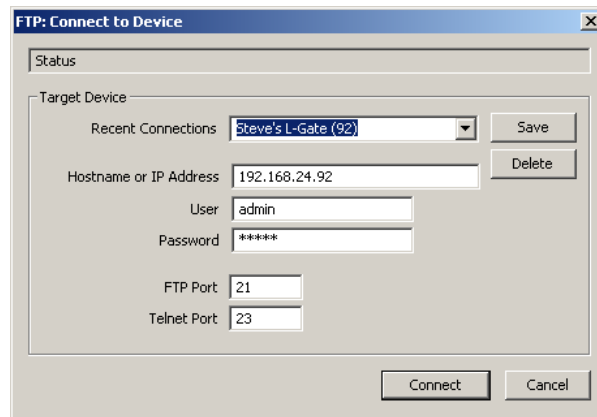

Figure 115: FTP connection dialog.
2. Select the menu: **Connection → Connect via FTP.** This opens the FTP connection dialog as shown in Figure 115.